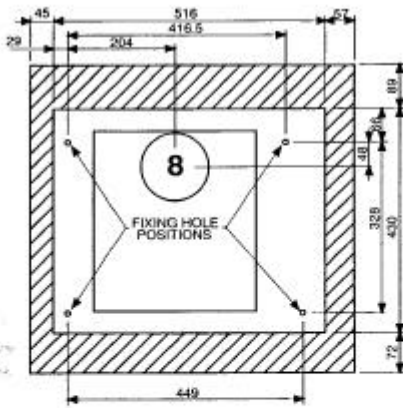

Fig. 7 (F 8S)
2. Select a position for the appliance. Using the template supplied, mark the position of the flue ducting and the four fixing holes. Ensure that the template is vertical (Fig. 7 or 8 depending on model).